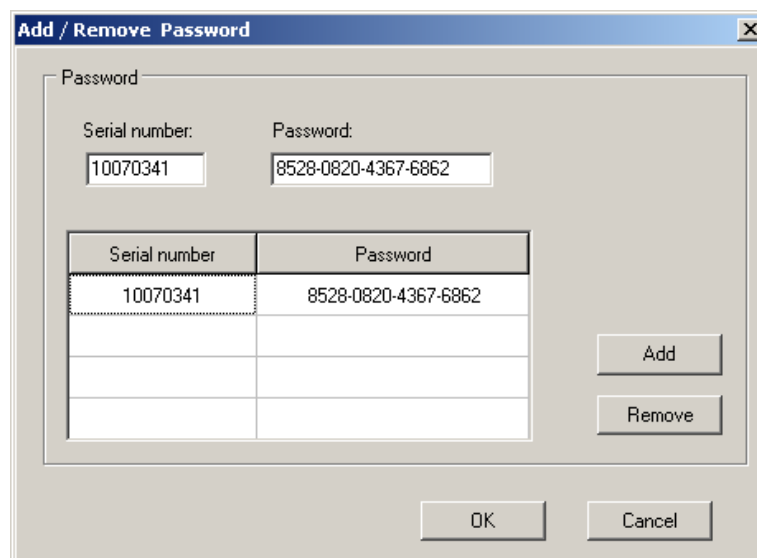

Fig. 48: Insertion of initial password
7. Select the command “**Config → Password...**”, type the serial number of meter and the password (which is indicated on the CD-ROM label) and confirm with “Add” (see Fig. 48)